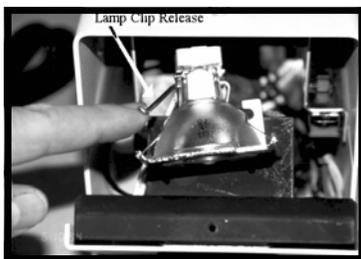

Fig. 3
3. Hold the cover firmly with one hand and push lamp clip toward back of unit as seen in *Fig. 3*